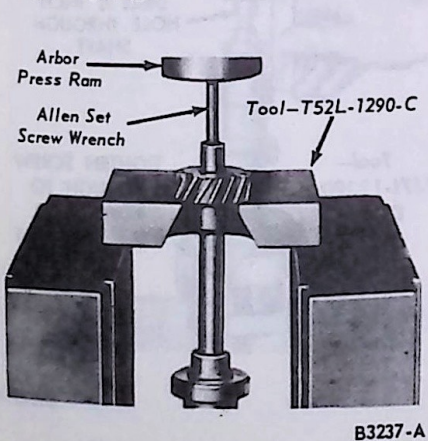

FIG. 16 Removing Gear
12. If the gear and shaft are to be used again, mark the gear and the shaft so that the pin holes can be easily aligned for assembly. Remove the gear roll pin (Fig. 15), and then remove the gear (Fig. 16).